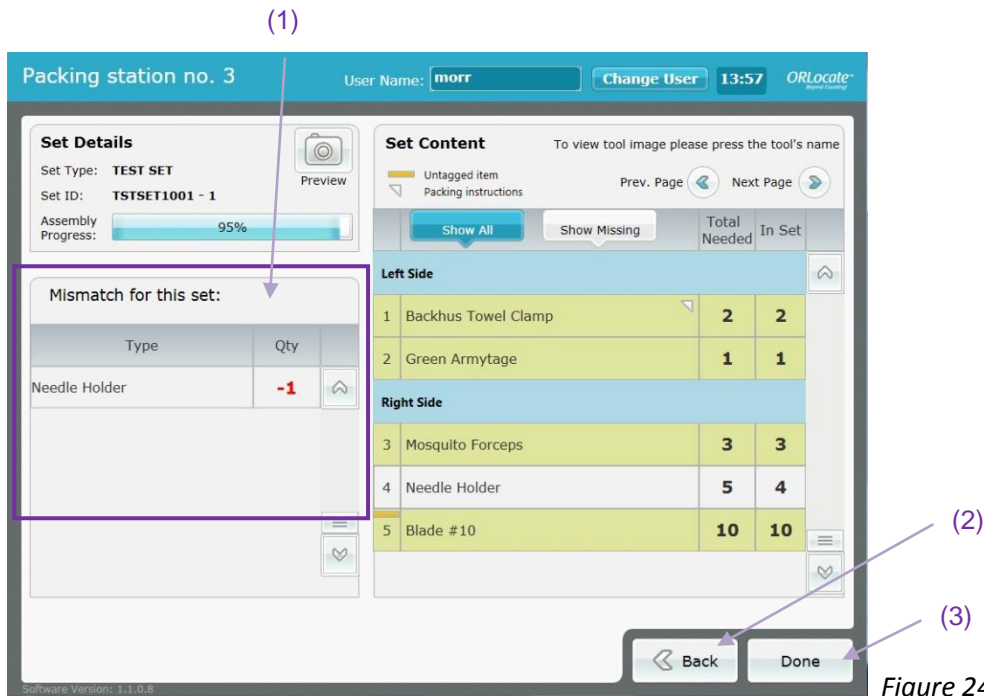

Figure 24
If there are items not packed, the system will show on the left side of the screen the missing items, as shown in figure 24 (1). To continue packing the missing items, touch the “Back” button (2). To finish the packing procedure for this set, touch the “Done” button (3).